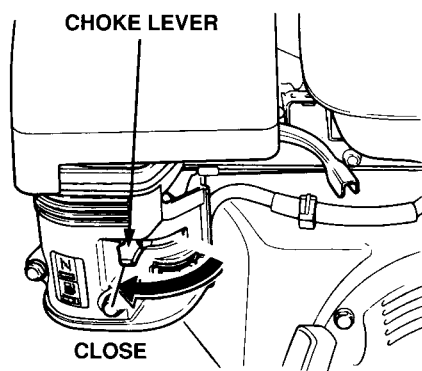

Figure 25. Choke Lever Closed
6. If the engine has started, slowly return the choke lever (Figure 25) to the **CLOSED** position. If the engine has not started repeat steps 1 through 5.